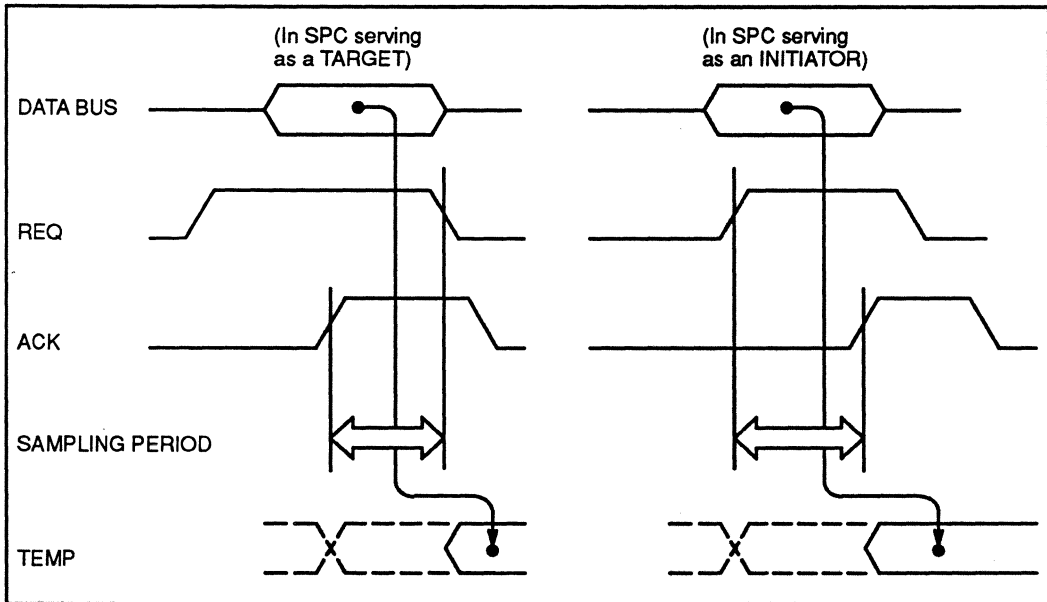

Figure 3-16. Data Bus Save In Manual Transfer Input Operation
- b) For a manual transfer input operation, the contents on the SCSI data bus are saved in the timing sequence shown in Figure 3-16.